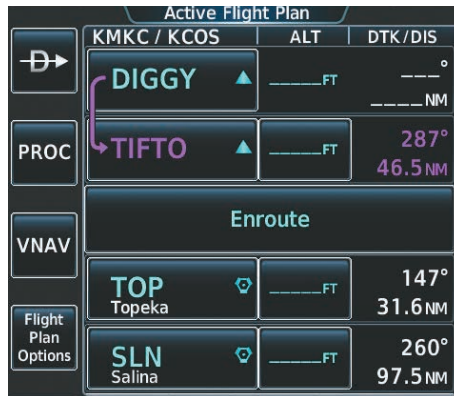

Figure 5-162 TOP Inserted into the Flight Plan
e) Touch the **Enter** Button. TOP is inserted into the flight plan as in Figure 5-162.